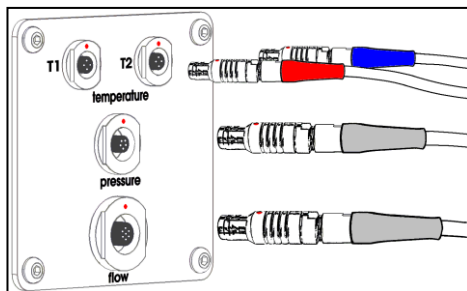

Figure 12 Connecting the sensors
- Place the pressure sensor into the pressure sensor holder at the side of the table (37).
- Connect the pressure sensor cable to the pump unit (12) and to the pressure sensor.
- Connect temperature sensors (10 and 11) according to the color coding (Figure 12).